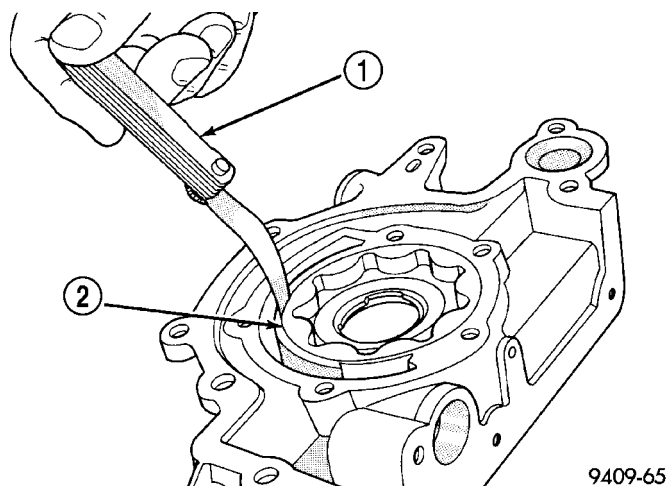

Fig. 122 Measuring Outer Rotor Clearance in Housing
(5) Slide outer rotor into pump housing, press to one side with fingers and measure clearance between rotor and housing (Fig. 122). If measurement is 0.39 mm (0.015 in.) or more, replace housing only if outer rotor is in specification.